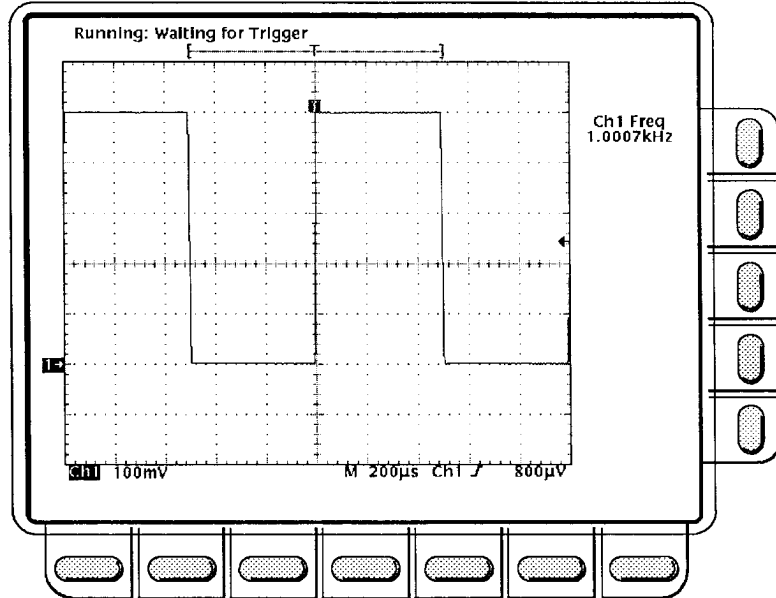

Figure 4-21: Measurement of Probe Compensator Frequency
- Press **CLEAR MENU** to remove the menus from the display. See Figure 4-21.